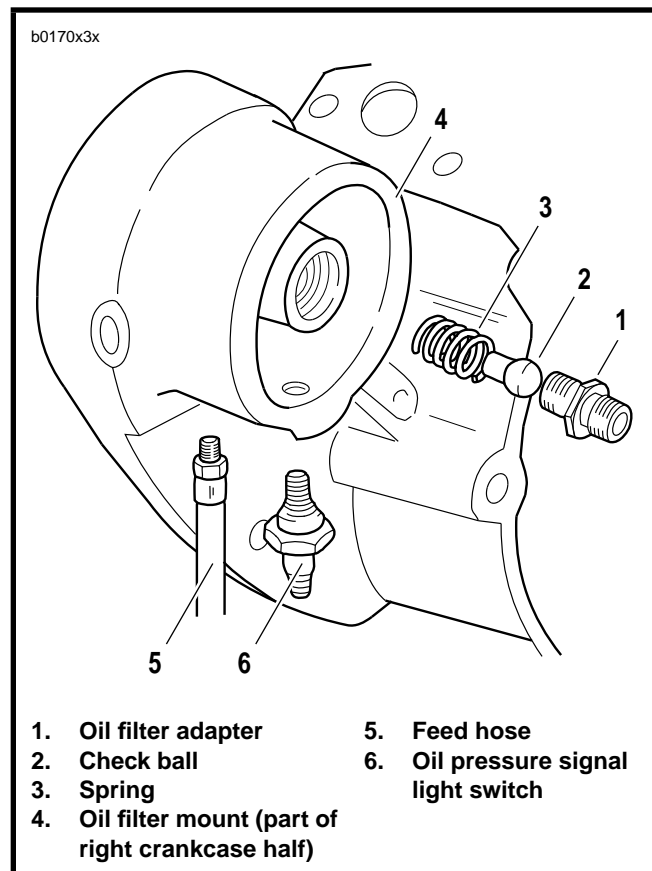

Figure 3-48. Oil Filter Mount
See Figure 3-48. Oil is pressure-fed from the oil pump to the oil filter mount (4) via a hose connection (5). Oil travels through the filter mount into the filter via outer filter holes.